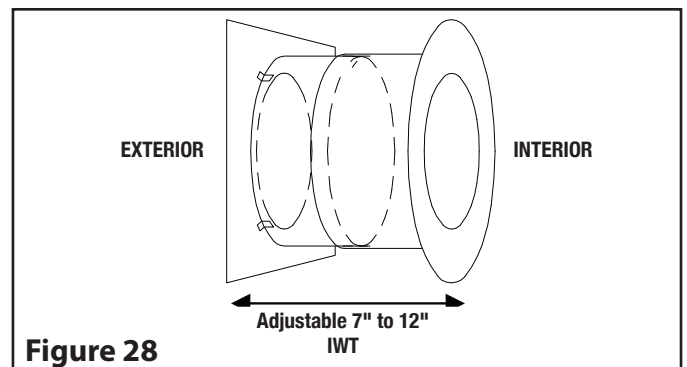

Figure 28
Step 2. Wood walls: Place the exterior half of the Insulated Wall Thimble (IWT) in the opening from the outside. Nail in place using (4) 2" nails or 1" screws. This Wall Thimble is adjustable from 7" to 12" (see Figure 28). Make sure the insulation pad is cut to the desired length according to the wall thickness. Place the interior half of the Wall Thimble inside the exterior half of the Wall Thimble. For a wall requiring more than 12", a shield extension can be field fabricated using galvanized sheet metal 26 gauge minimum.